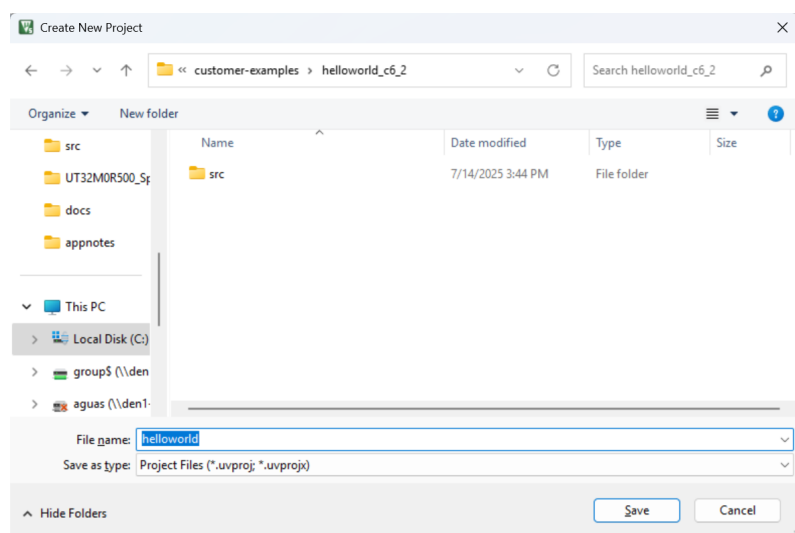

Figure 1: Project Setup
4. Under the directory of choice, specify the project name as **helloworld** and click **Save**, see Figure 1.